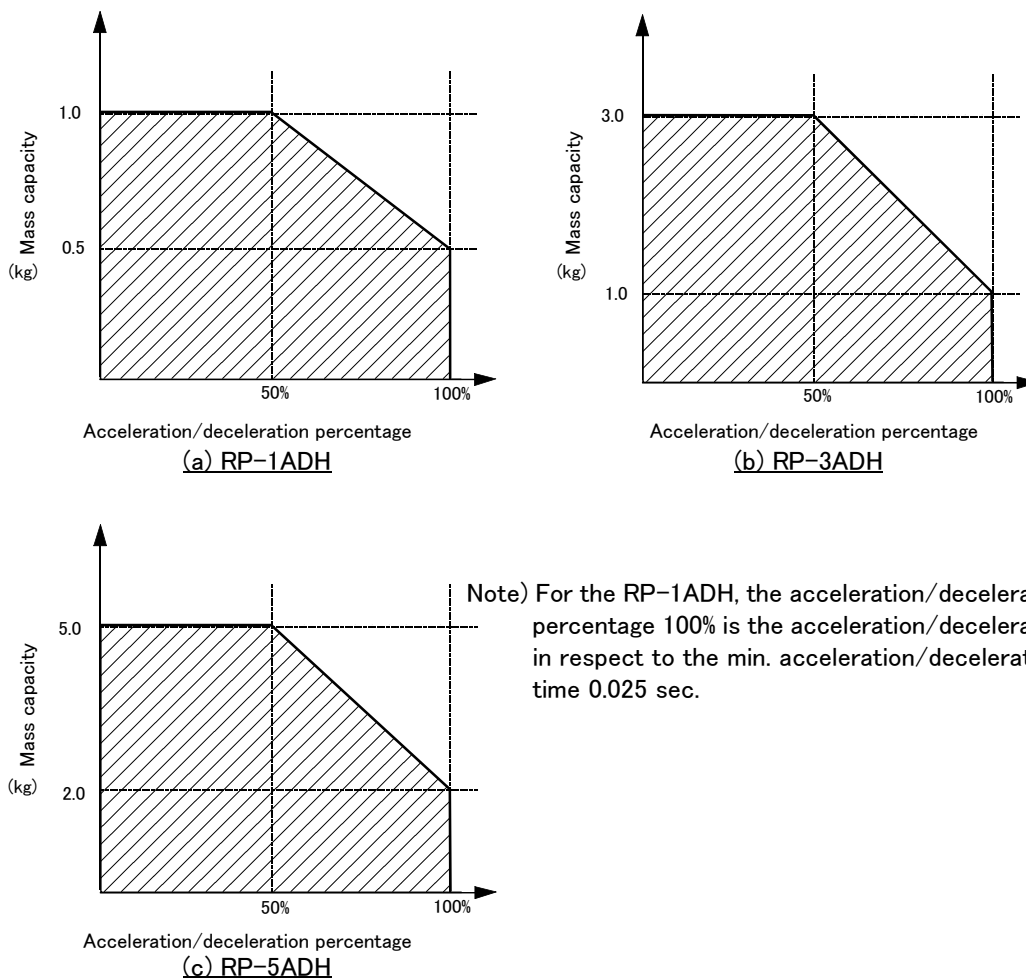

Fig.2-1 : Relation of mass capacity and optimum acceleration/deceleration percentage
- (1) The acceleration/deceleration must be set appropriately in the program according to the loaded load mass. The relation of the optimum acceleration/deceleration in respect to the mass capacity is shown with a percentage in Fig. 2-1.
Make sure that the acceleration/deceleration percentage satisfies the values in the shaded section shown in Fig. 2-1. The acceleration/deceleration percentage is set with the ACCEL command in the program. If the percentage is not set in the program, the default value 100% will be set as the acceleration/deceleration percentage.
Example) When the loaded load mass is 1kg, the appropriate acceleration/deceleration percentage will be 50%, as shown in Fig. 2-1. Thus, the acceleration/deceleration percentage is set as 50 in the program.